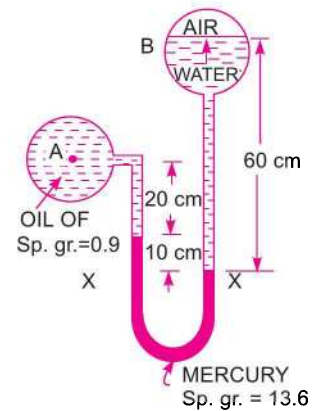

Fig. 2.20
**Problem 2.17** A differential manometer is connected at the two points A and B as shown in Fig. 2.20. At B air pressure is 9.81 N/cm2 (abs), find the absolute pressure at A.